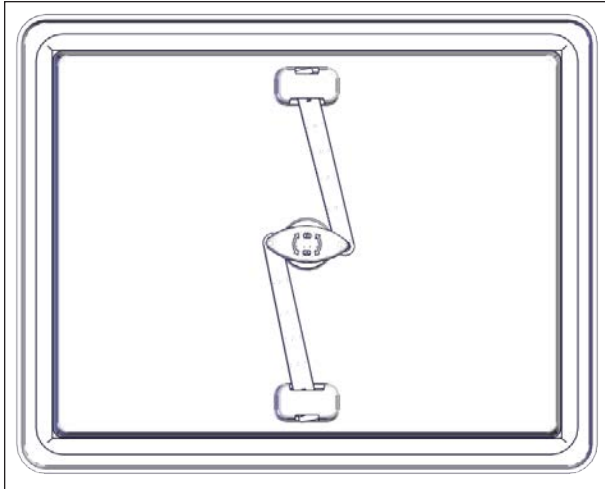

FIGURE 70: INTERIOR HANDLE
1. Turn the red handle by a quarter turn in either direction to retract the arms, see Figure 70.